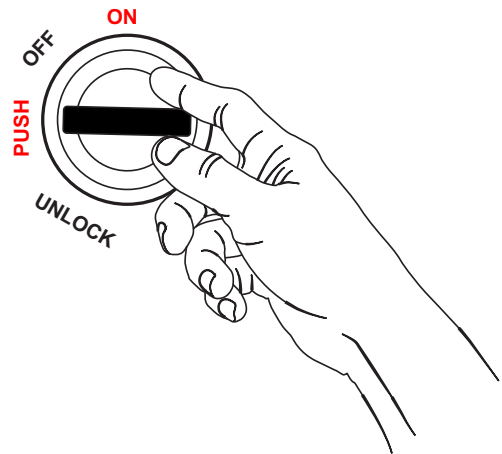

Figure 22. Key Switch **PUSH** Position
- Place key switch in the **PUSH** position (Figure 22).